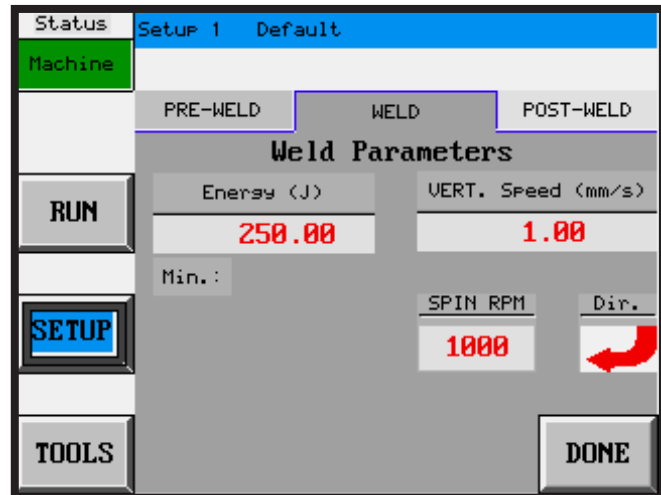

Figure 5-16 Weld Parameters Screen for Energy Method
In this method, the weld duration is controlled by the amount of energy input into the weld joint as determined by the spin torque and angular rotation. The welder will maintain a constant spin speed until the programmed energy is produced, at which point the tool will decelerate and stop. The Weld Parameters button is used to enter the settings shown in Figure 5-16. The Energy (J) field specifies the weld energy in Joules. As a safety measure, the use of the Energy Method requires that the Weld Time Process Limit be enabled (refer to the Process Limits description in the POST-WELD menu later in this manual on how to set this limit). If the Upper Weld Time Limit is exceeded during the weld, the machine will stop the cycle and report an error. The VERT Speed (mm/s), SPIN RPM, and Dir. fields are the same as in the Time Method. The DONE button causes a return to the main WELD tab screen.